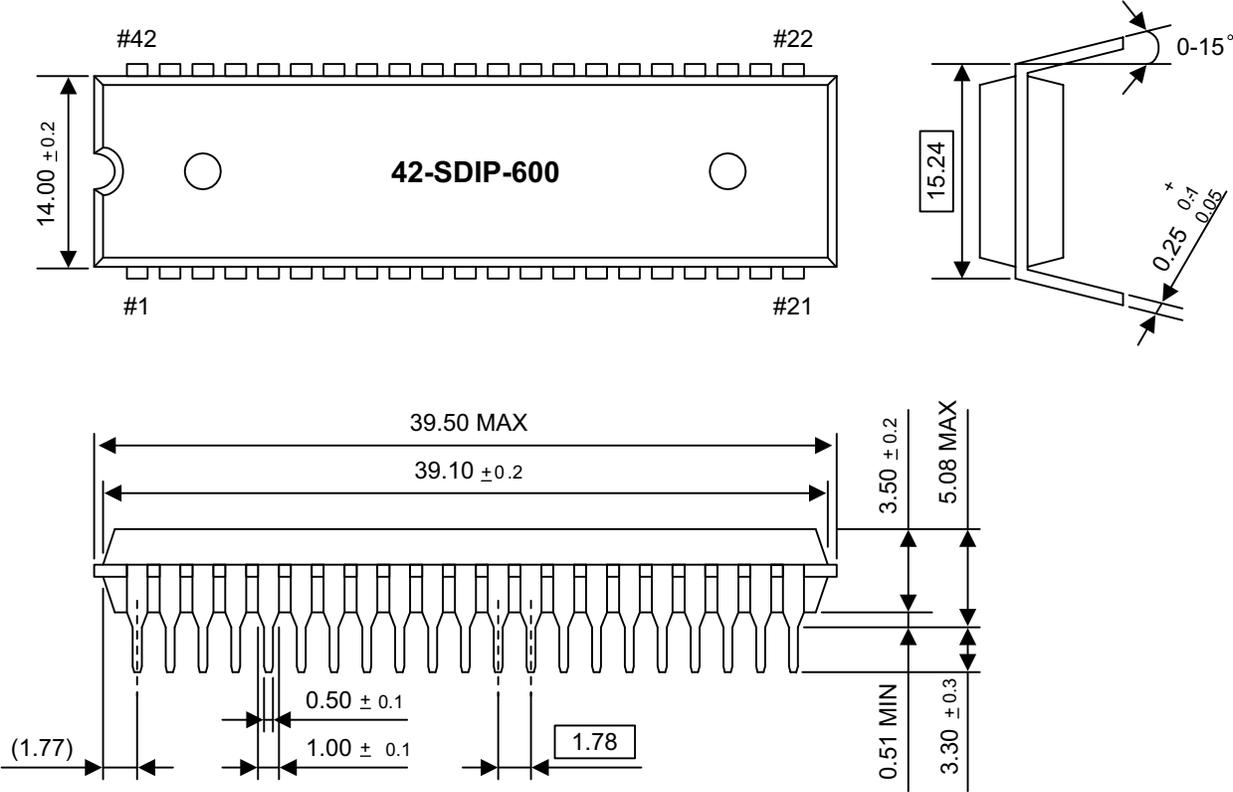

Figure 132. Package Dimensions, 42-pin SDIP Package
A mechanical drawing of the 42-pin SDIP package is shown in Figure 132.
► **Note:** Dimensions in Figure 132 are expressed in millimeters.